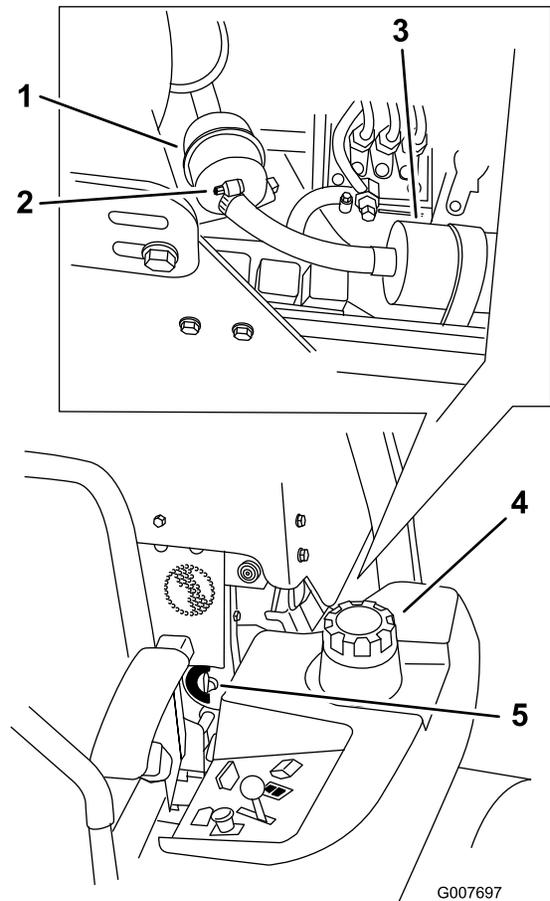

Figure 48
4. Close the fuel shut-off valve (Figure 48).
5. Loosen the two hose clamps and disconnect the fuel lines from the fuel filter (Figure 48).
6. Install a new filter. Connect the fuel lines to the fuel filter and install the two hose clamps (Figure 48).